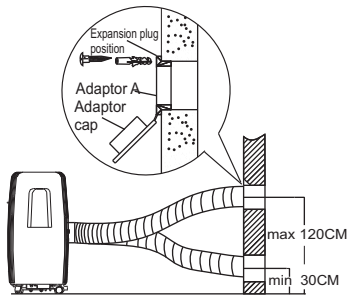

Fig. 19
1. Prepare a hole in the wall. Install the wall Exhaust adaptor A onto the wall(outside) by using 4 expansion plugs and wooden screws, be sure to fix thoroughly. (See Fig.19)